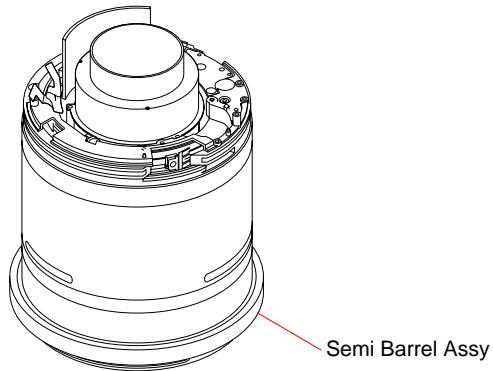

Fig.4-8-1
- 1) Set the lens to be checked to the condition as shown in Fig.4-8-1 by disassembling or assembling.